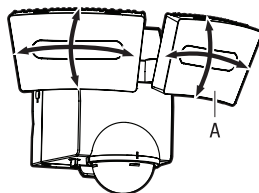

FIG. 6
Each lamp head (A) can be tilted down by 40° and upward by 65°. It can be panned out 90° and panned in 20°. FIG. 6